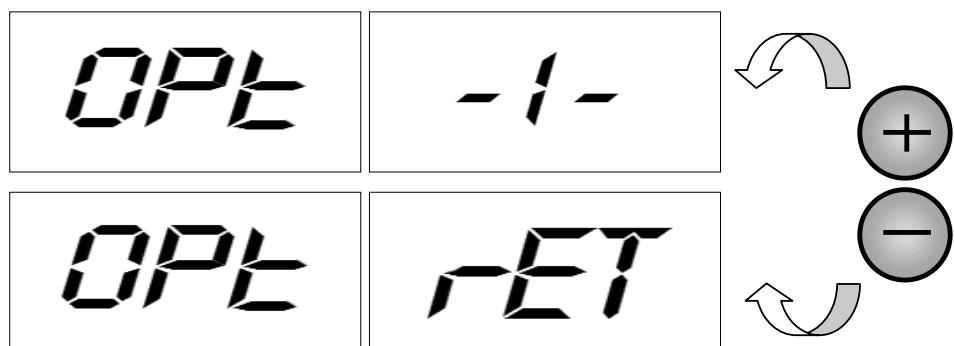

Fig. F5.1 Procedure to enter optimization function
- 1) Press [F+P4]  +  to show the options as shown in Fig. F5.1. Press [P4]  or [P5]  +  and select the oPt-1 option to continue, or select the oPt rEt option to exit the operation procedure. Press [F+P4]  +  to confirm the selected function.